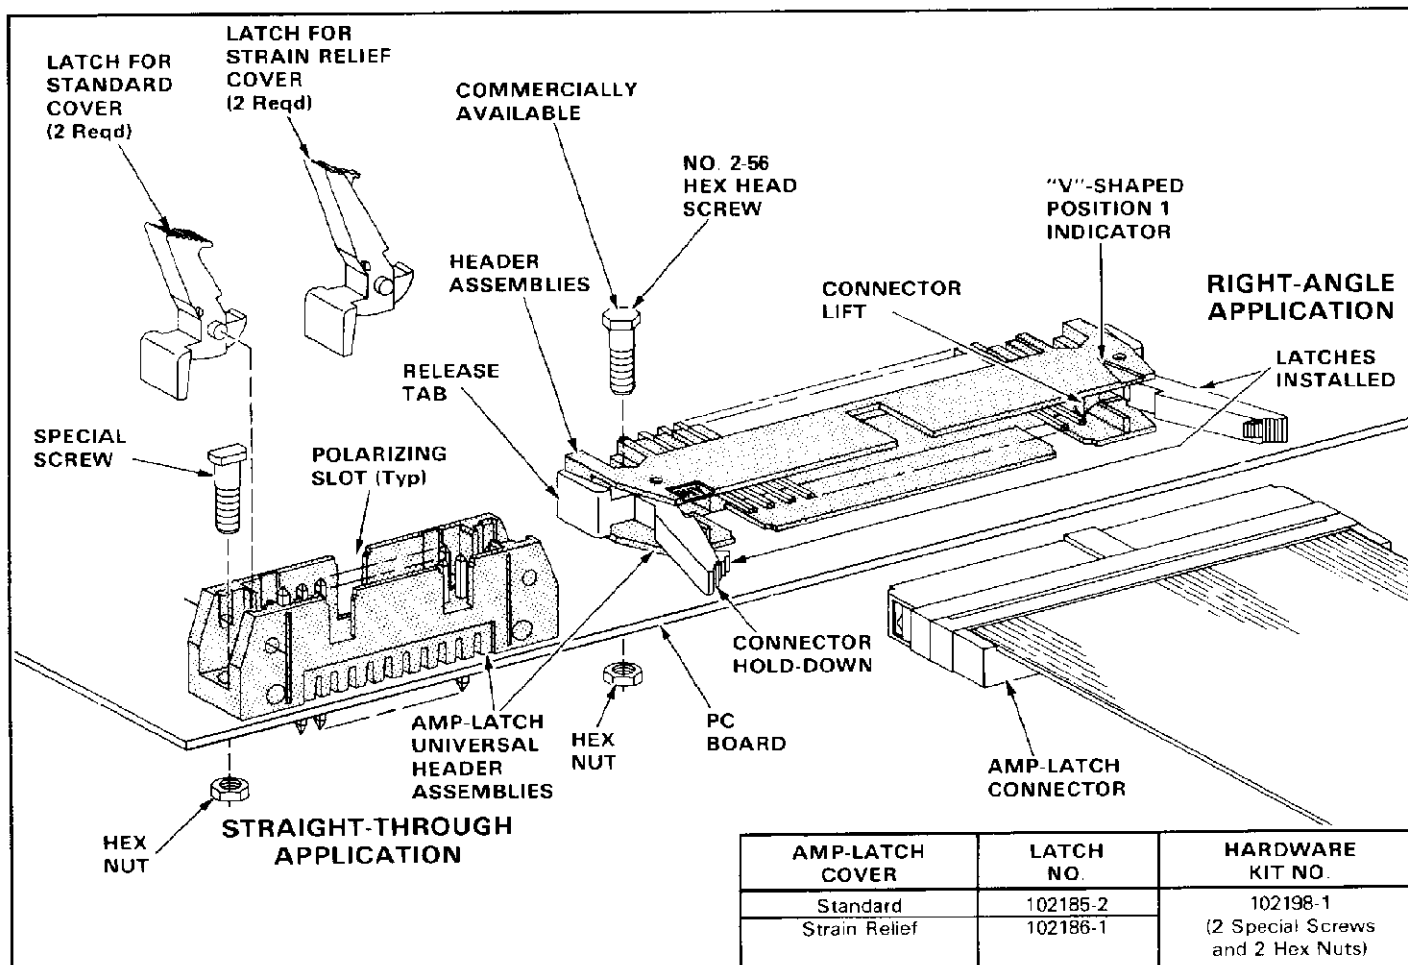

Fig. 1
This instruction sheet (IS) covers the AMP-LATCH Universal Header Assemblies and accessories shown in Figure 1.
Accessories include two types of latches and a special hardware kit. They are designed to hold mated connectors firmly in place, and extract contacts from posts when disengaging connectors. One type of latch is for AMP-LATCH Receptacle Connectors with standard covers, and the other type of latch is for AMP-LATCH Receptacle Connectors with strain relief covers. The hardware kit contains two special 2-56 UNC screws and two nuts for securing a through-mount connector to a pc board of 1/8 in. maximum thickness. Commercially available hardware is recommended for securing a right-angle mount connector. See Figure 1.
2. Determine whether the mating connector has a standard or strain relief cover — then select two of the appropriate type of latches and a hardware kit from the chart in Figure 1.
5. Insert hardware screws into mounting holes of housing and secure with hardware nuts. See Figure 1.
2. Determine whether the mating connector has a standard or strain relief cover — then select the appropriate latch kit from the chart in Figure 1.
5. Secure the header assembly to the pc board using suitable hardware such as screws and hex nuts. See Figure 1.
1. Spread latches as shown in Figure 1.
Upon release, the connector lifts will push the connector out of the header. See Figure 1.